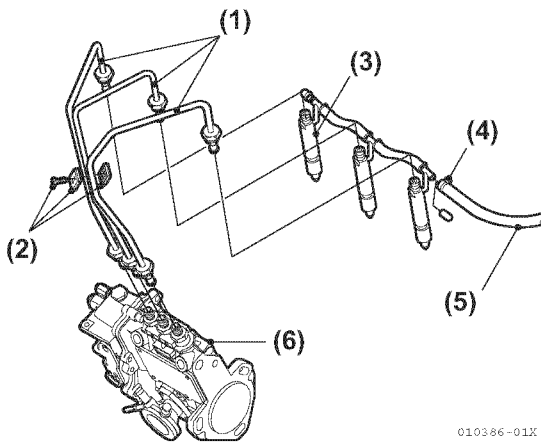
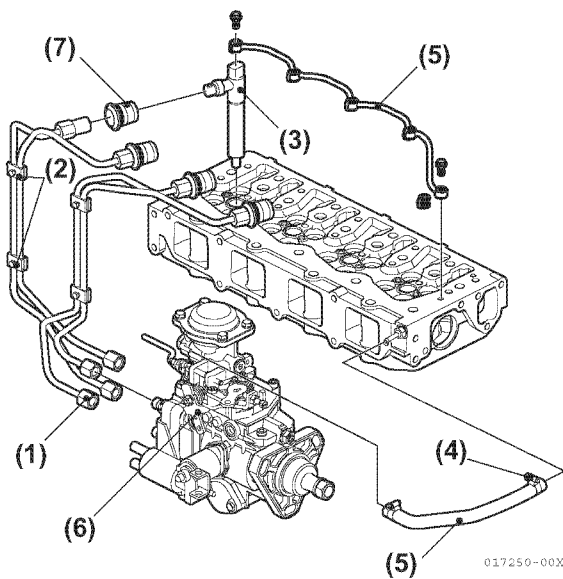

Figure 6-13
Figure 6-14
7. Install the fuel injection lines (**Figure 6-13, (1)**) and (**Figure 6-14, (1)**). See *Fuel Injection Nozzle Installation* on page 6-15.
8. If removed, install clamps(s) (**Figure 6-13, (2)**) and (**Figure 6-14, (2)**).
9. Install injection nozzle return fuel lines (**Figure 6-13, (4)**) and (**Figure 6-14, (4)**) and (**5**). See *Fuel Injection Nozzle Installation* on page 6-15.
10. 4JH4-TE and 4JH4-HTE: Install pipe seal (**Figure 6-14, (7)**).